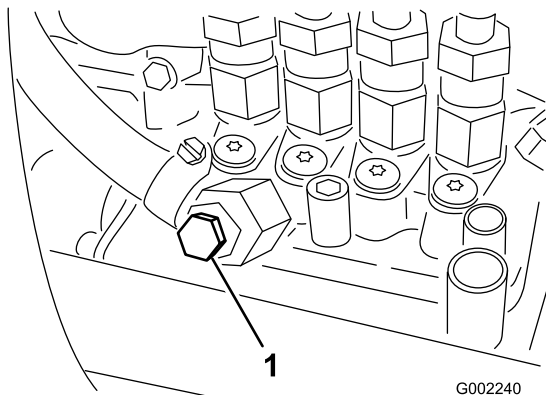

Figure 44
7. Open the air bleed screw on the fuel injection pump (Figure 44).